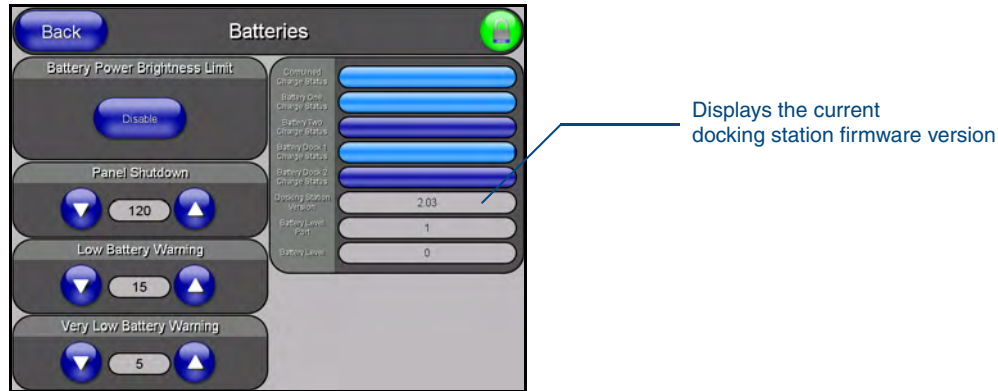

FIG. 2 Batteries page
*A completely discharged battery requires one full charge cycle from within battery compartment #1. Refer to FIG. 2 on page 2 for locations.*
3. Press the **Batteries** button to open the Batteries page (FIG. 2).